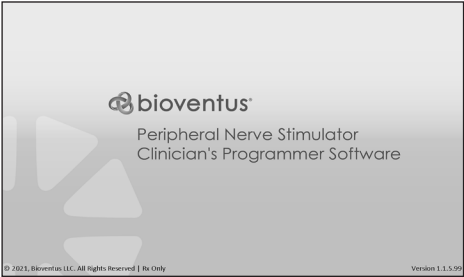

Figure 6-2: The Clinician Software Welcome Screen
1. Turn the Clinician's Programmer on by pressing the on/off button on the upper left corner of the Clinician's Programmer. A welcome screen is displayed (Figure 6-2).